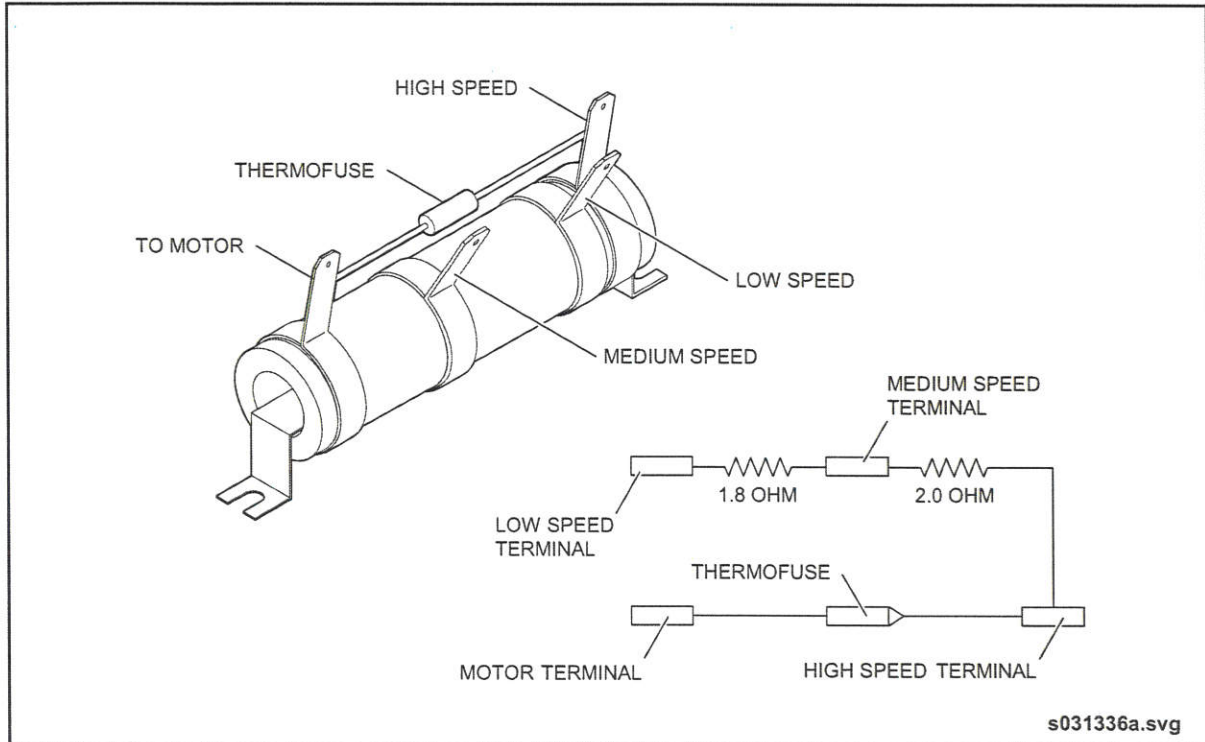

Fig. 10-7: Resistor/Fuse Block
- a. Check both thermal fuses for continuity using an ohmmeter. See "Fig. 10-7: Resistor/Fuse Block" on page 20.